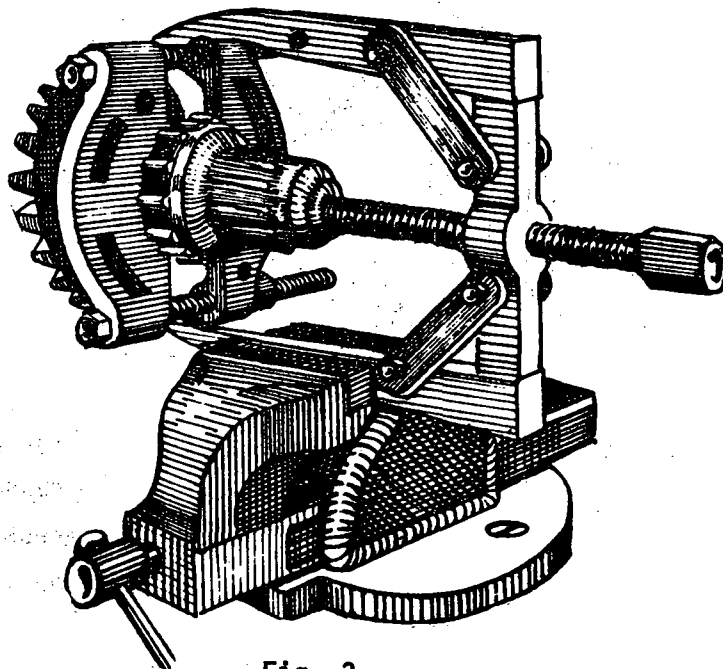

Fig. 3
- b) Using an extractor (Fig. 3) done when the parts cannot be taken to the press.